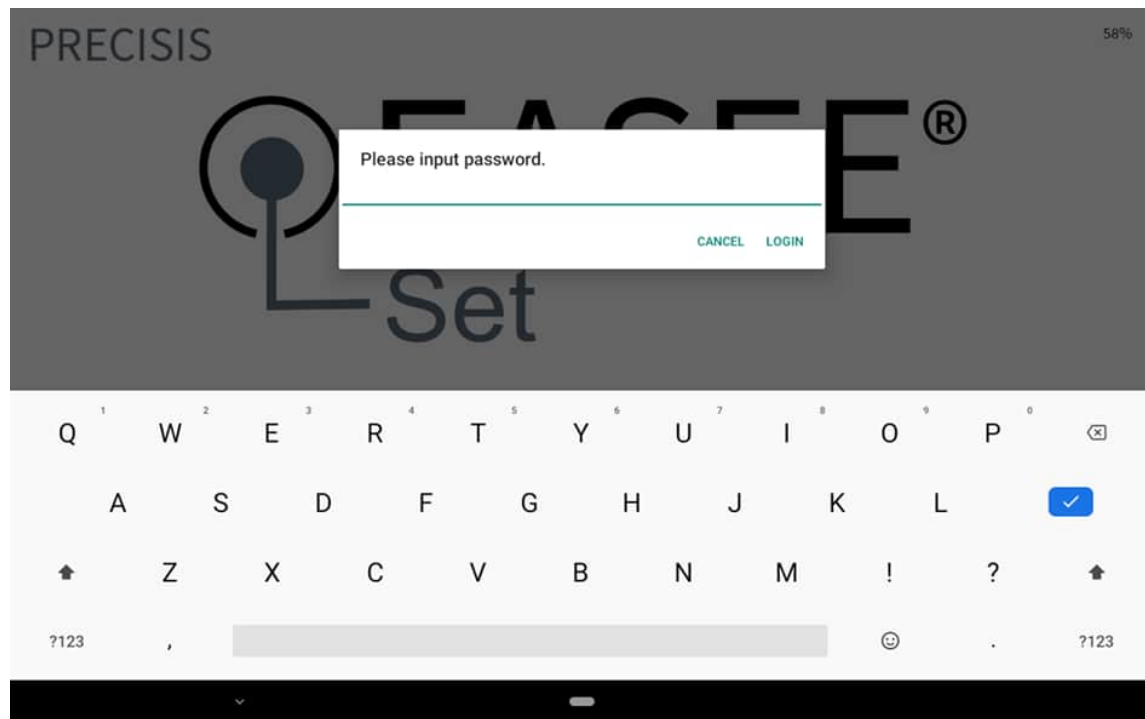

Figure 4.20: Login screen of EASEE® Set for the THERAPY SETTINGS menu.
The other menu **THERAPY SETTINGS** is password-protected. After pressing the **THERAPY SETTINGS** button, a dialog box will be displayed for entering a password (Figure 4.20). Each password has exactly four (4) alphanumeric characters.